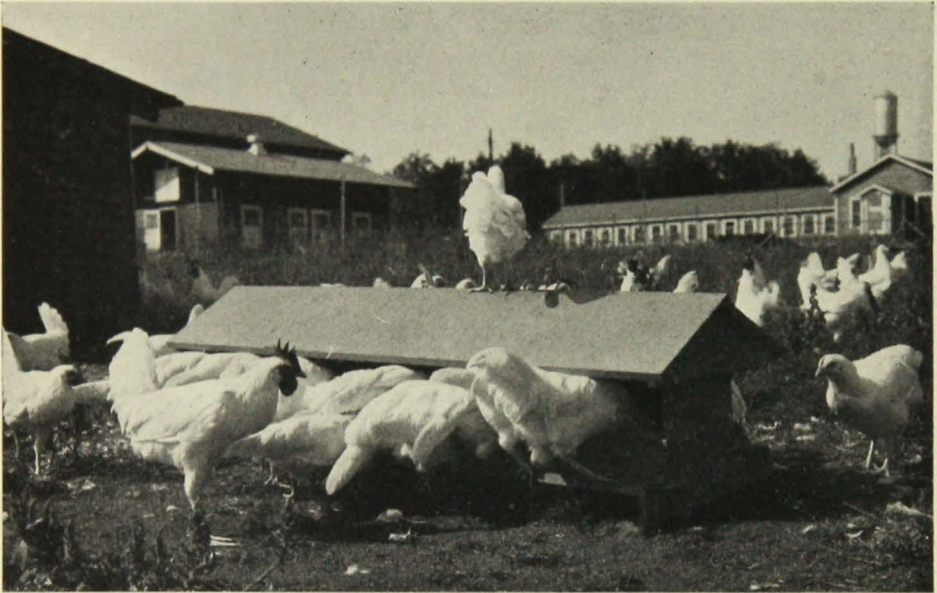

FIG. 3. RANGE FEEDER
4. Range feeder—3 months to maturity. Use one 5-foot feeder for each 50 pullets. (Fig. 3.)